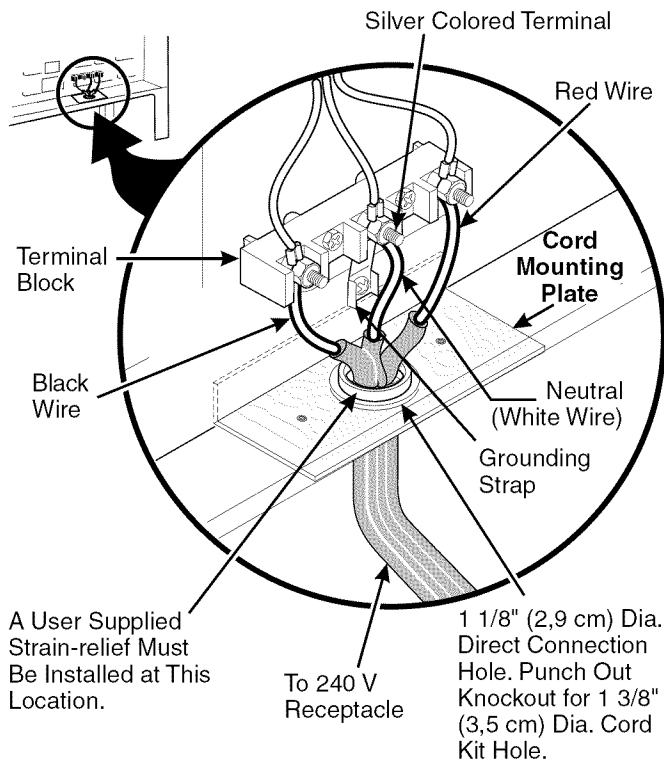

Figure 8
**NOTE:** Electric Range is shipped from factory with 1 1/8" (2,9 cm) dia. hole as shown on figure 8. If a larger hole is required, punch out the knockout.
If local codes permit connection of the frame grounding conductor to the neutral wire of the copper power supply cord (see Figure 8):
2. Using the nuts supplied in the literature package, connect the neutral of the copper power supply cord to the center silver-colored terminal of the terminal block, and connect the other wires to the outer terminals. Match wires and terminals by color (red wires connected to the right terminal, black wires connected to the left terminal) (see figure 8).